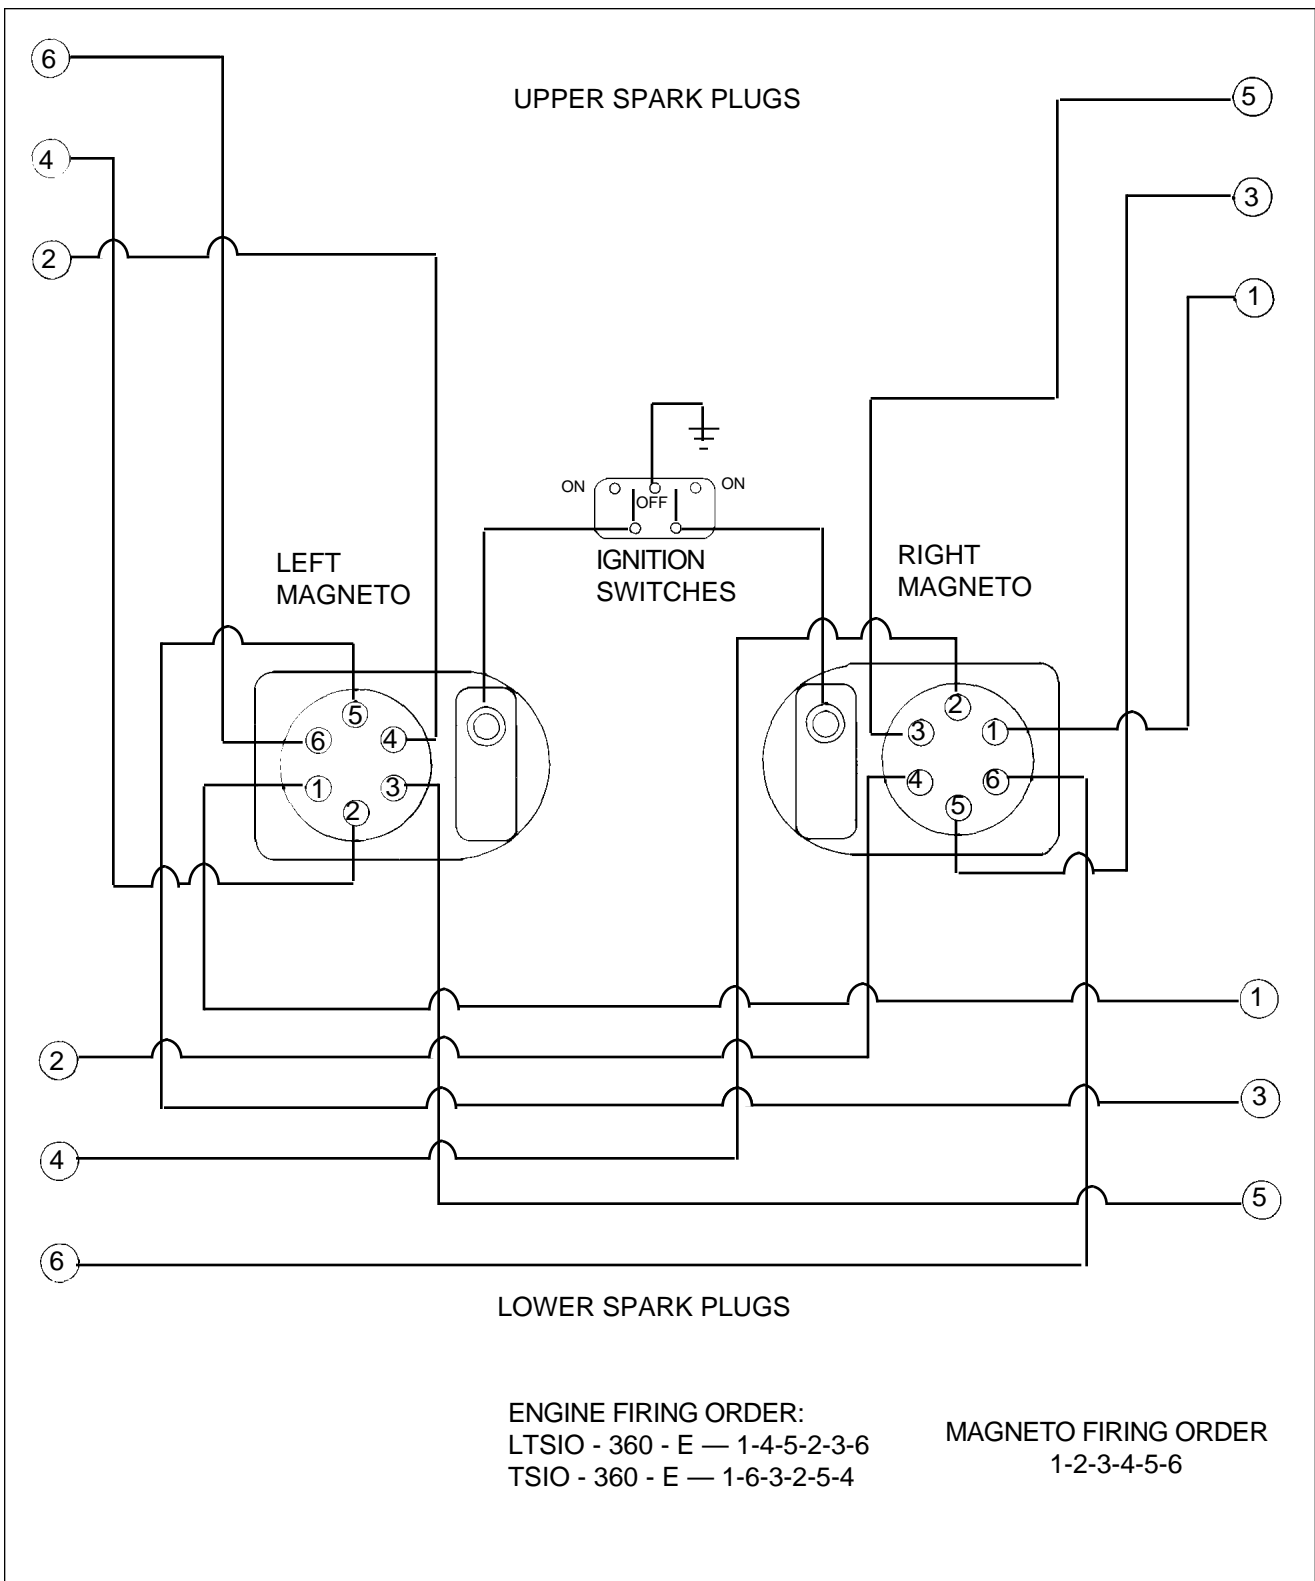

Figure 74-7. Ignition Schematic
2. Route the ignition wires to their respective cylinders as shown in Figure 74-7.